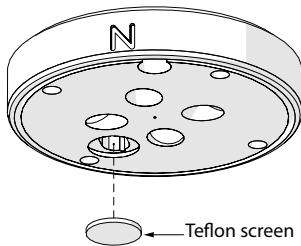

Figure 12 Teflon screen
- d. Observe the Teflon screen (Figure 12) to see if it is dirty.